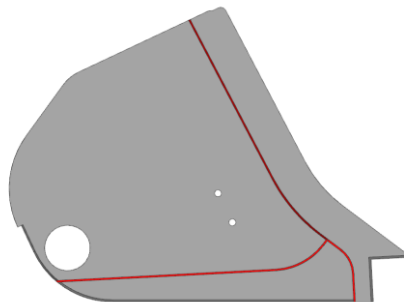

Figure 4. Cheek plates weldment
- Welding of bush and center lug plate (shown in figure 4).